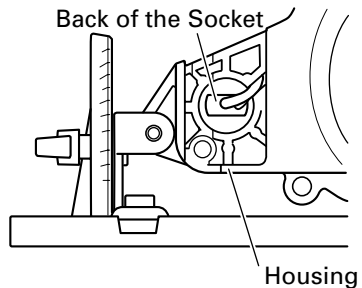

Fig. 23
- (2) Push the back of the socket, and remove the socket and the light bulb together from the housing. (Fig. 23)
- When attaching the socket to the housing, align the socket with the hole of housing while watching the back of the socket shown in Fig. 23, and insert the socket until it lightly bumps against the housing.